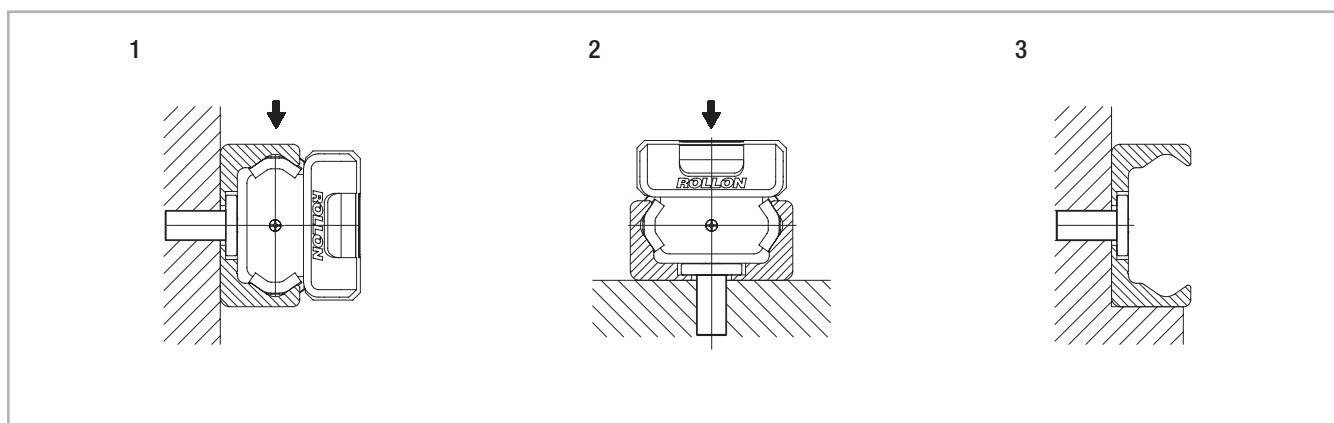

Fig. 150
The T- and K-rails can be installed in two positions relative to the external force. For axial loading of the slider (fig. 150. pos. 2), the load capacity is reduced because of the decline in contact area caused by the change in position. Therefore, the rails should be installed in such a way that the load on the rollers acts in the radial direction (fig. 150, pos. 1). The number of fixing holes in the rail in combination with screws of property class 10.9 is dimensioned in accordance with the load capacity values. For critical applications with vibrations or higher demand for rigidity, a support of the rail (fig. 150, pos. 3) is advantageous.